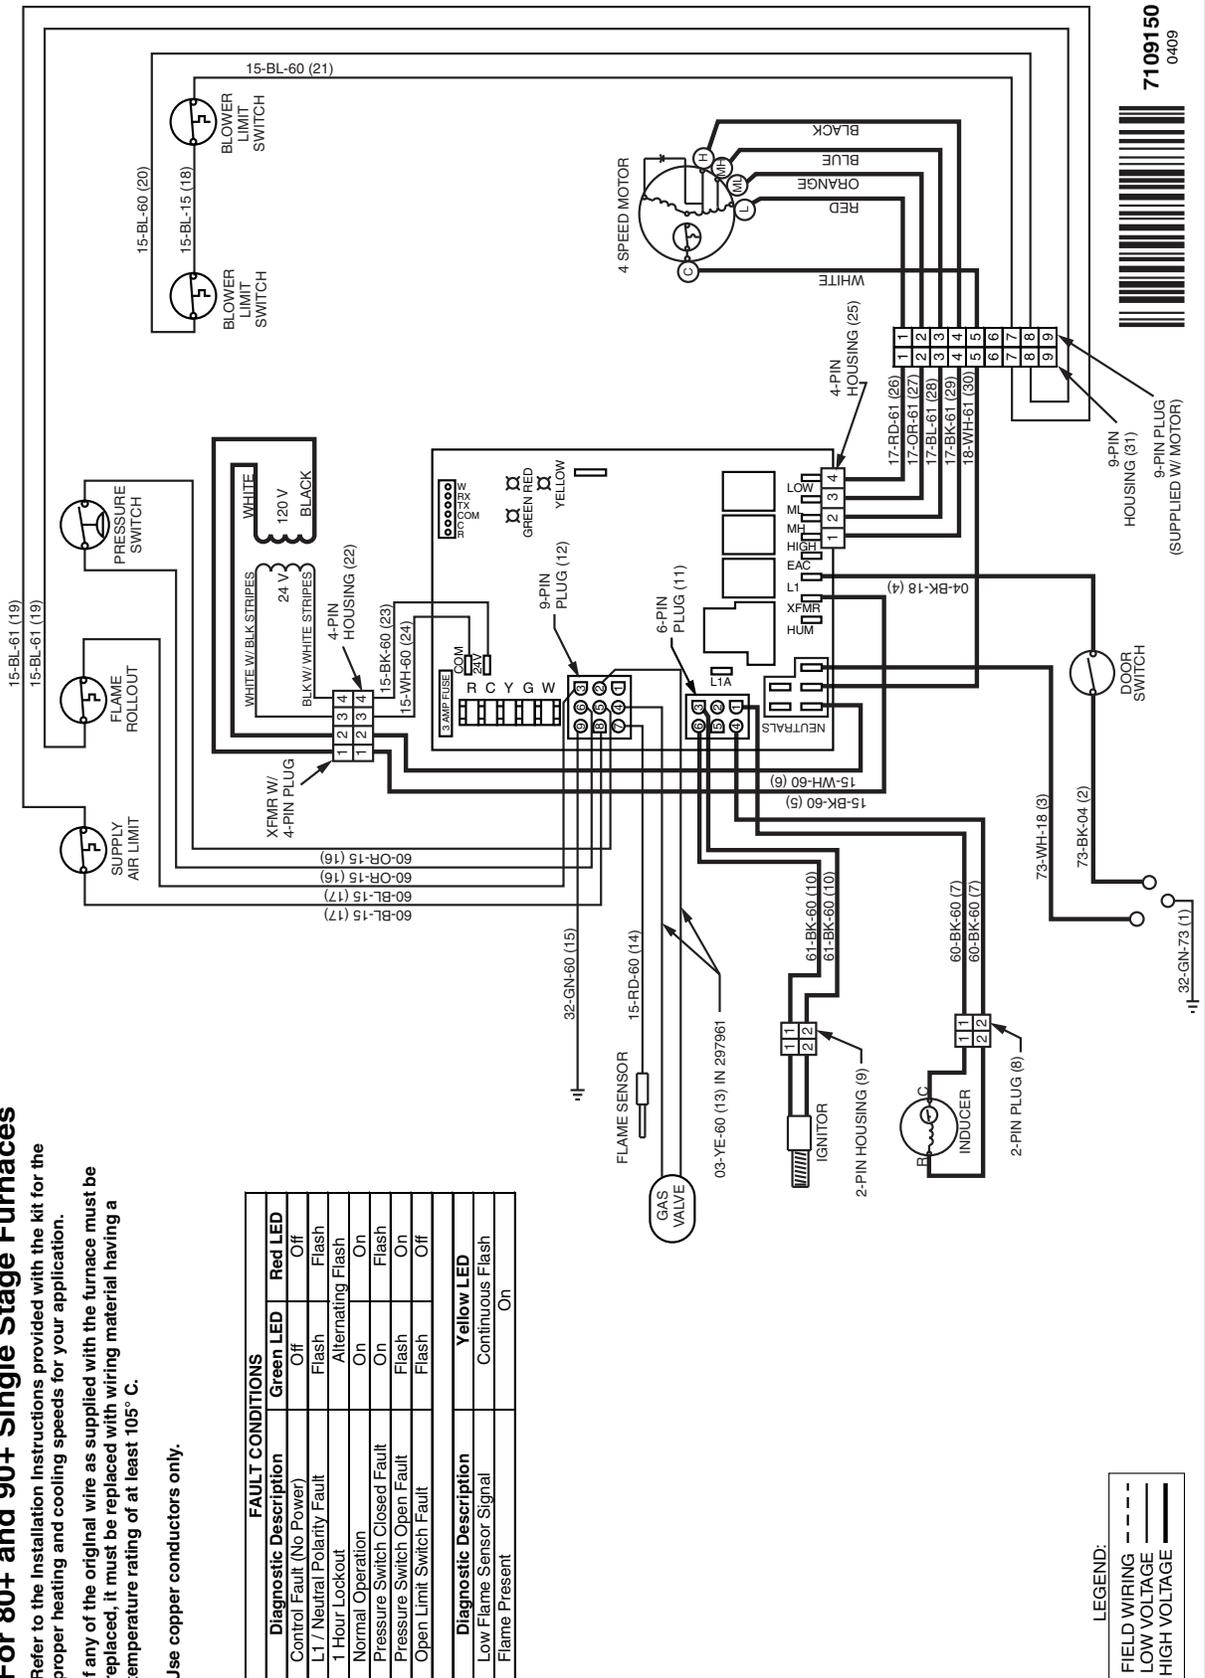

Figure 32. Wiring Diagram for Upflow & Downflow Furnaces
- Are all the LED's on the furnace control board constantly ON? If not, refer to Table 8 or the wiring diagram (Figure 32, page 37) to determine fault condition.